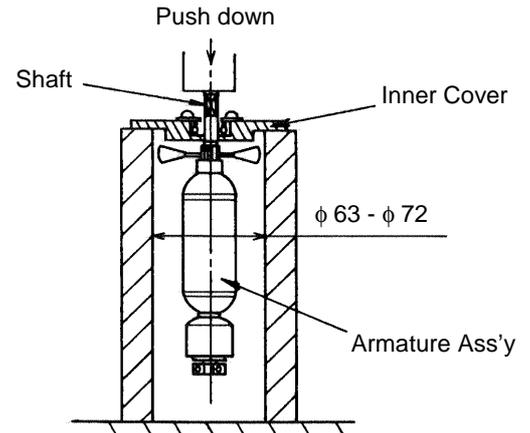

Fig. 1
- (1) Remove the Brush Cap ⑳, and take out the Carbon Brush ㉑.
- (2) Loosen the four M5 x 25 (+)-Hd. Tapping Screws ㉒, and remove the Nose Bracket Ass'y ㉓. Separate Inner Cover (B) ㉔ from the Housing Ass'y ㉕ with a screwdriver, and remove Inner Cover (B) ㉔ together with the Armature Ass'y ㉖.
- (3) As illustrated in Fig. 1, support Inner Cover (B) ㉔ with a tubular jig with an inner diameter large enough (63 mm) to accept the Armature Ass'y ㉖, and push down on the end of the Armature Ass'y shaft with a hand press to remove the Armature Ass'y ㉖.